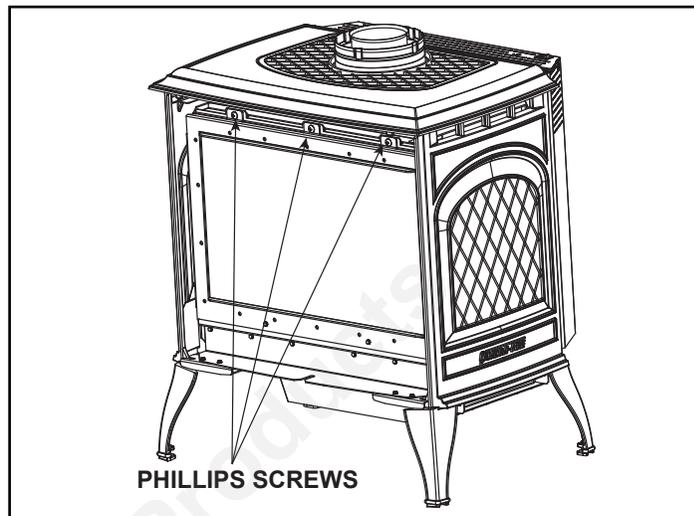

Figure 10.2 Remove Glass Frame
3. Using a #2 phillips bit, remove three fasteners from the top of the glass frame assembly. See Figure 10.2. Remove glass from appliance.